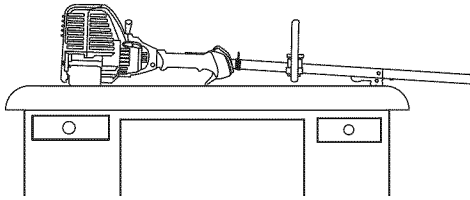

Fig. 21
2. Place the engine on an elevated, level surface with the cutting head shield hanging off the surface to get an accurate oil level reading (Fig. 21).